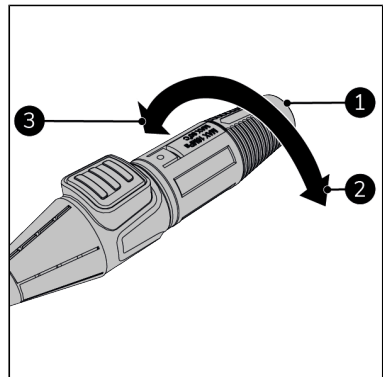

Figure 34.
3. Rotate the head of the nozzle (Figure 34, pos. 1) to change the jet angle:
- for a smaller (more powerful jet) turn it clockwise (Figure 34, pos. 2).
- for a bigger (less powerful jet) turn it anti-clockwise (Figure 34, pos. 3).